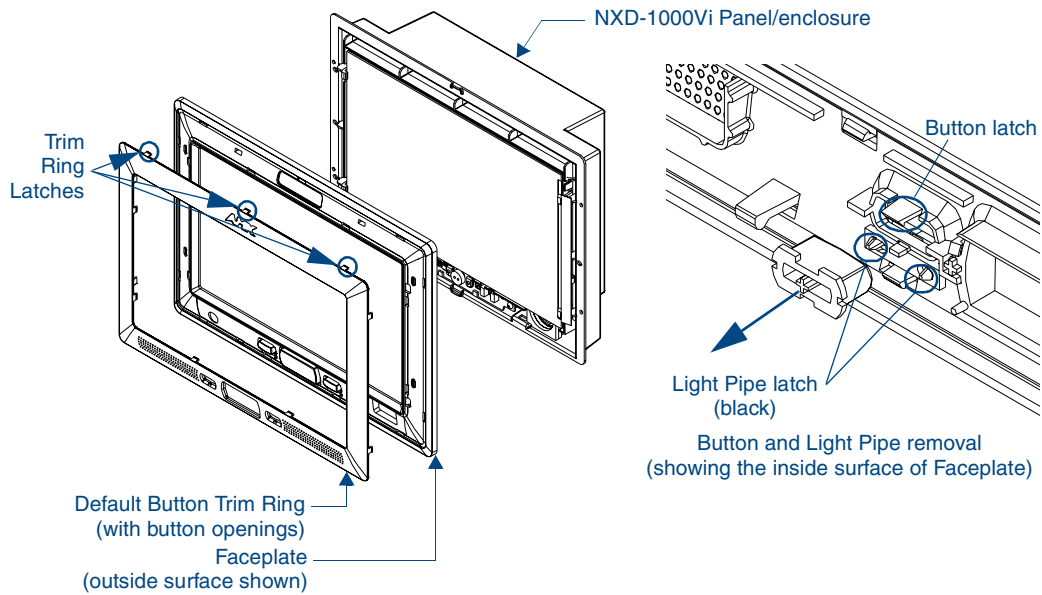

FIG. 16 Removing the default Button Trim Ring
- 2.** Turn the Faceplate over to expose the inside surface and view the Trim Ring latches (FIG. 16).
- 4.** Gently tug along the edges of the Button Trim Ring and work your way around the edges to remove it from the Faceplate (FIG. 16).